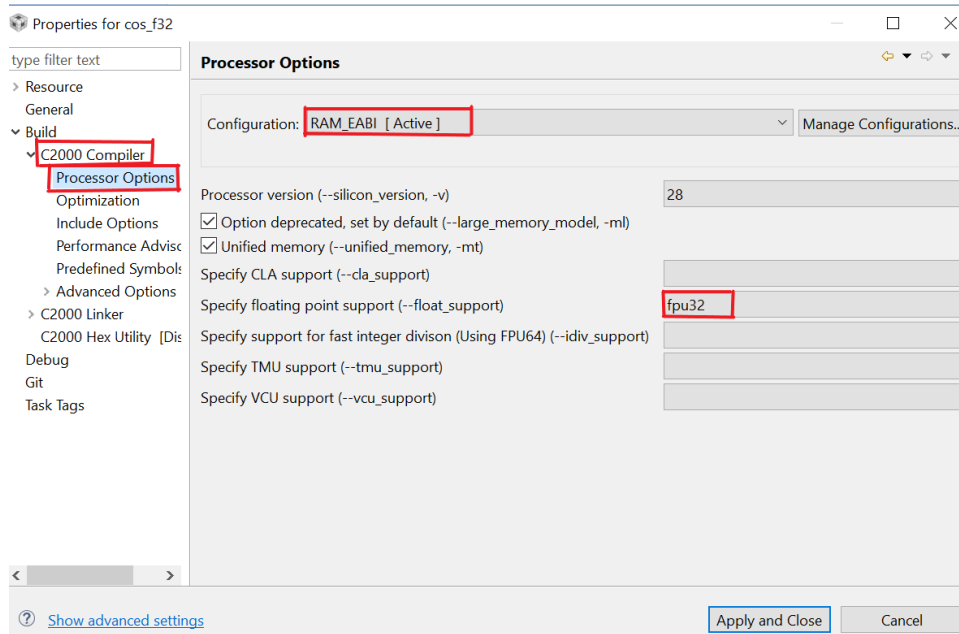

Figure 4.6: Turning on FPU32 support
- For the single precision library set the **-float\_support** option to **fpu32** in the **Runtime Model Options**. The user may optionally turn on **tmu\_support**; none of the library functions use TMU instructions but the library is built with TMU support turned on (Figure 4.6).